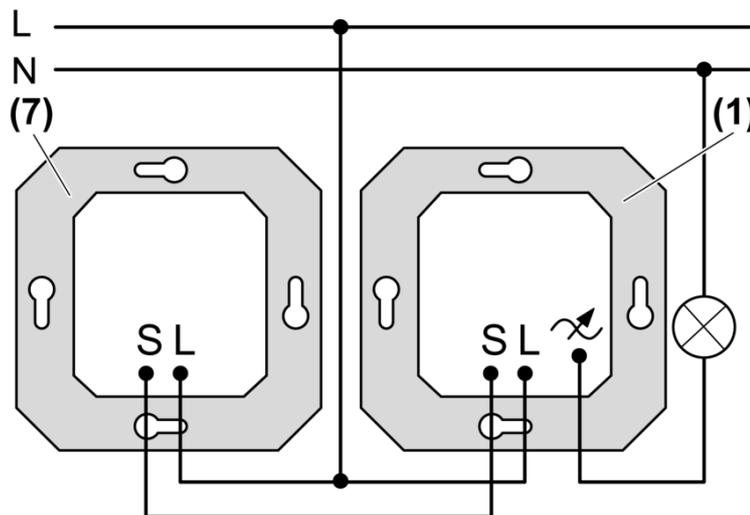

Figure 4: Connection diagram for dimmer with extension
- Connect dimmer (1) and optionally an extension (7) according the connection diagram (Figure 4).